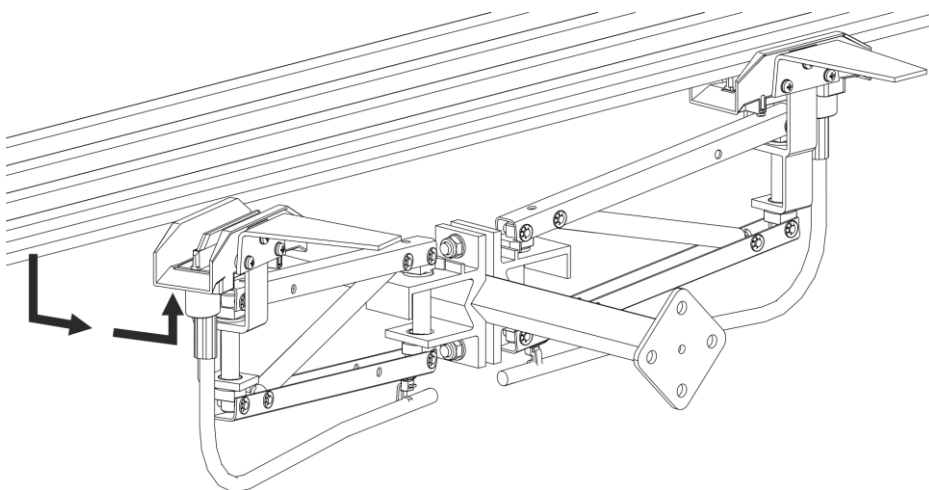

Fig. 126: Remove the current collector from the conductor rail
- Pull the current collector down in the spring-loaded state and unscrew it from the side in order to be able to remove the current collector from the conductor rail (see Fig. 126). If there are more than three poles, the current collector may need to be removed from the carrier.